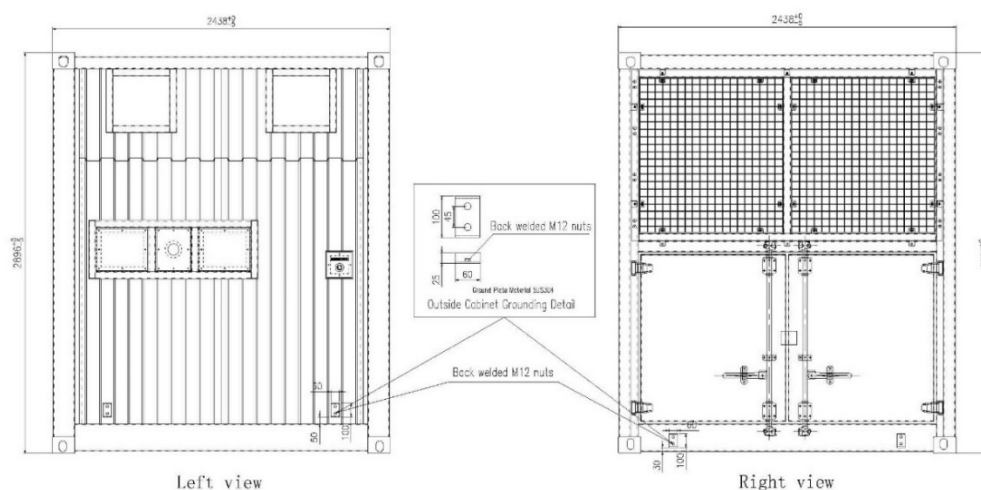

Figure 20: SolBank3.0 series grounding detail
- ✓ Step 2: SolBank3.0 series grounding auxiliary material size needs to be configured according to the box stainless steel grounding bus and fixing bolt size, as shown in Figure 20.